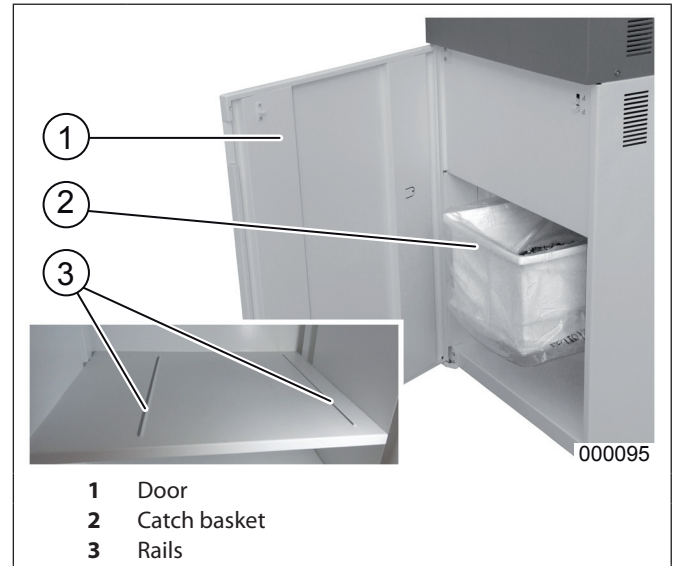

Fig. 4 Catch basket
Proceed as follows to empty the catch basket (Fig. 4/2):
1. Open the door (Fig. 4/1).
6. Insert the basket back into the machine. Place the basket correctly between the rails (Fig. 4/3) and push it to the rear wall.